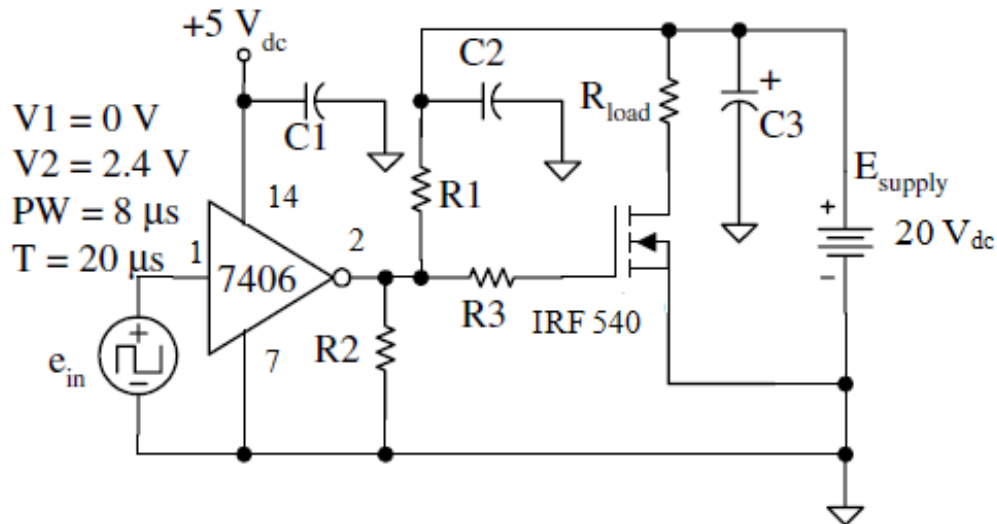

Figure 1. Low-side switch circuit
- The input pulse amplitude is only 2.4 V_p. Most MOSFETs need 10 V_p to turn hard *on*. The 7406 has been added to convert the logic level at its input to 10 V_p to 20 V_p. Be sure to include C₁ = 0.1 μF capacitor *close* to the 7406's power pin, as shown in Figure 1.
- Build the circuit in Figure 1. Select suitable values of R₁ and R₂. Take particular care to keep the leads as short as possible, and to provide the separate common returns for the logic, the motor, and the decoupling capacitors. The load in this case is a DC motor. Connect a Schottky diode *directly* across the load terminals.